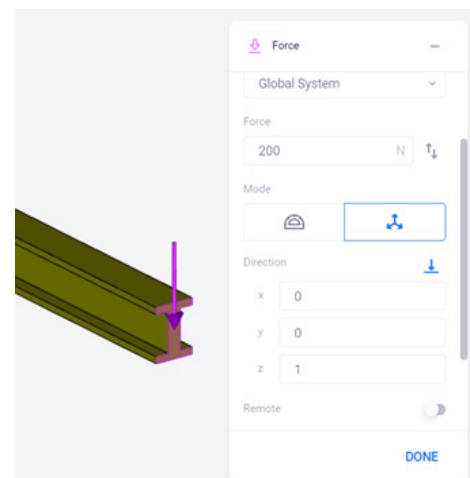

Figure 2: Using the force tool on the other end of the beam
Step 2: Select the force tool and apply a load of 200N to the end face and provide the desired direction vector (see Figure 2).